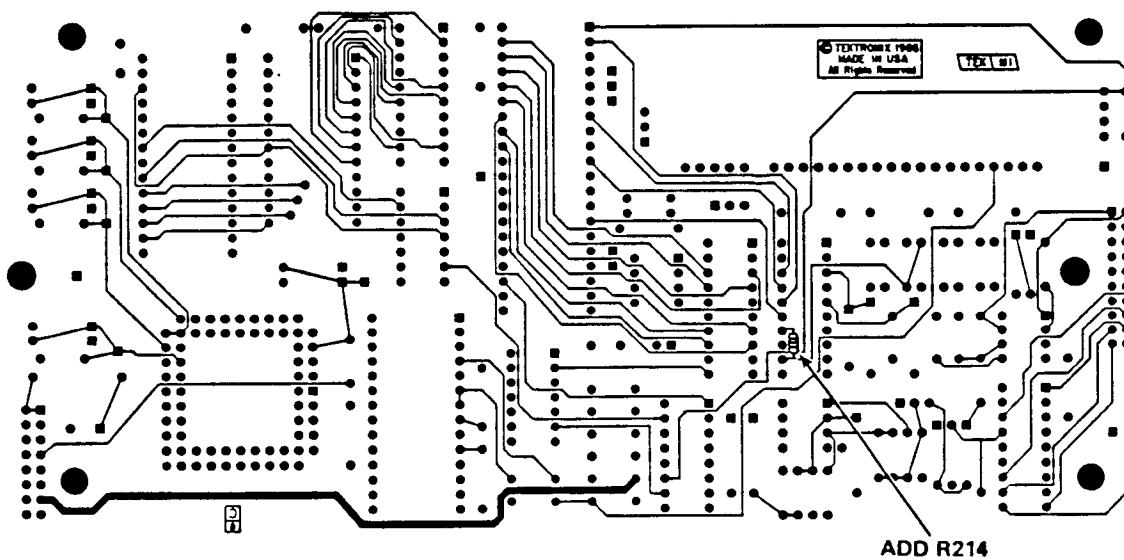

Figure 2. - Backside (solder) side of the Kernel ckt bd.
- ( ) 5. Position the Kernel circuit board with the back (solder) side facing up. Solder one lead of R214, 20k $\Omega$ , resistor to the circuit board pad common to U310, pin 12. Solder the remaining lead of R214 to the circuit board pad common to U310, pin 14. Refer to Figure 2, for R214, new location.